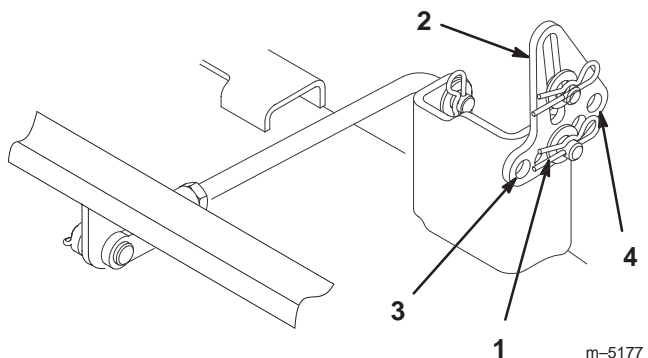

Figure 40
7. Remove the hairpin cotter and washer from the leveling bracket (Fig. 40). To level the blade(s), reposition the leveling bracket(s) in a different hole and install the washer and hairpin cotter. (Fig. 40). A front hole lowers the blade height and a rear hole raises its height. Adjust both sides as required.